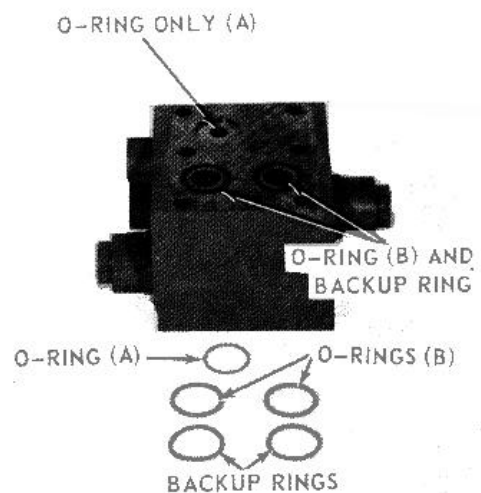

FIGURE 7-55.
b. The two grooves side by side on manifold assembly (see figure 7-55) require an o-ring and a back-up ring (one of each per groove).
c. The groove positioned by itself (see figure 7-55) requires only an o-ring.